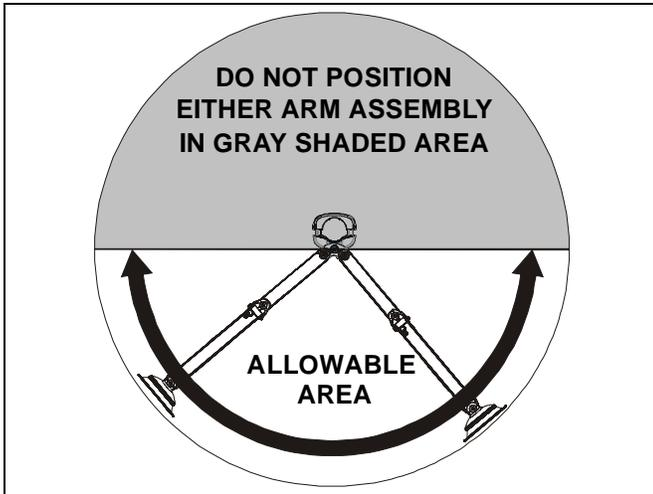

Figure 4
5. Position arm assembly (A) within UNSHADED area as shown (See Figure 4). Using 3/16" hex key, tighten screw (H) as required to maintain position.